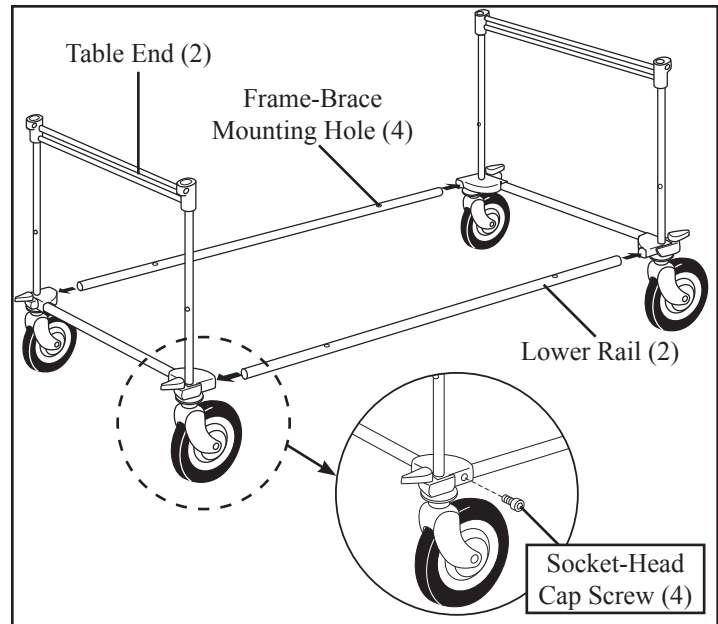

Figure 1 - Attaching the Lower Rails and Table Ends
2. Insert the lower rails into the table-end corner castings (Figure 1). Verify that the holes for the frame braces **and** table-ends are properly aligned as follows:
- The frame-brace mounting holes must face straight upward as shown in Figure 1 (not at an angle).
4. Secure the rails to the table ends using the 3/16" Allen wrench and four socket-head cap screws provided (Figure 1 inset).